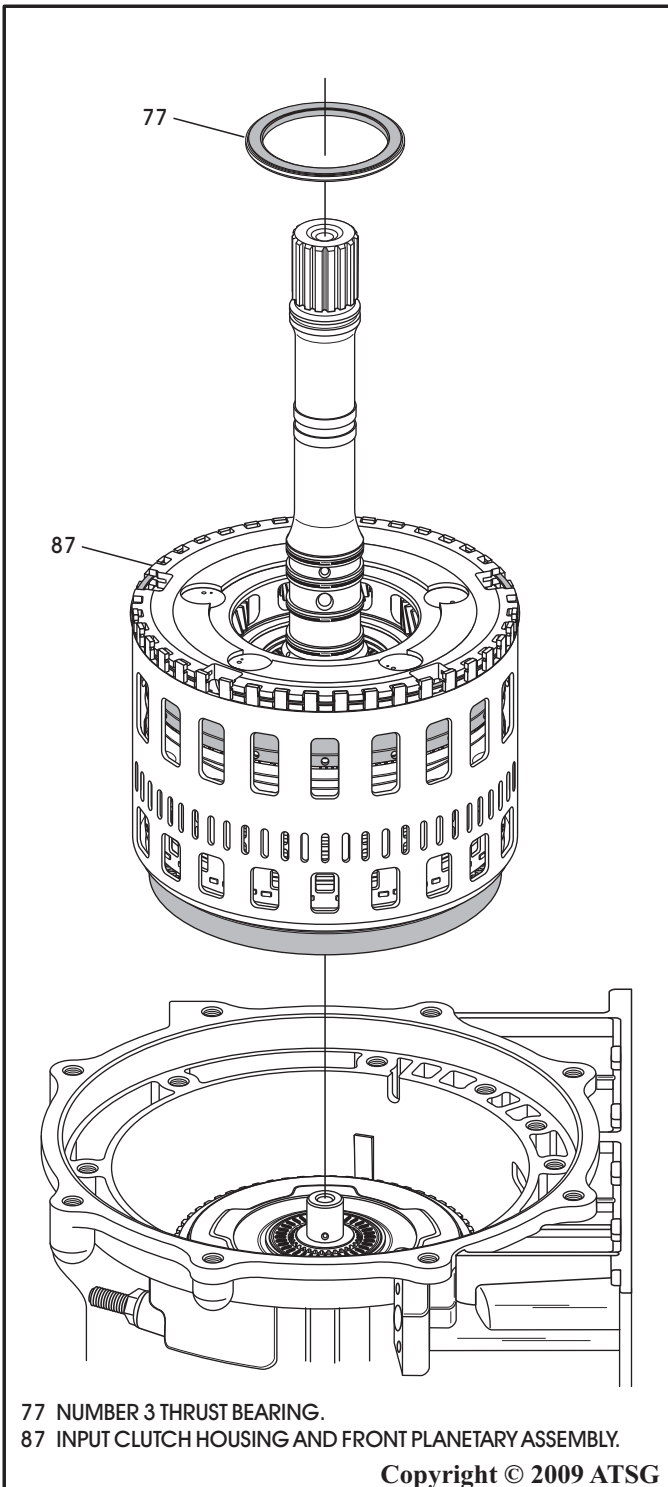

Figure 46
23. Remove the input clutch and front planetary carrier assembly, along with number 3 thrust bearing, as an assembly (See Figure 46).